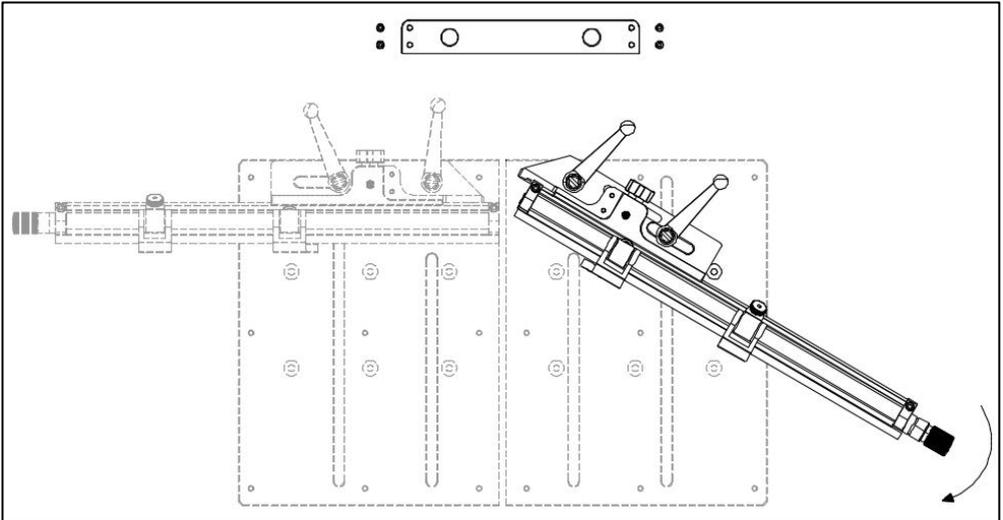

Fig. 8
1. With the bridge removed and adjusting levers loosened, either the left or right fence can be positioned at an angle to make cuts as shown in Fig. 8. You'll need to utilize a protractor to set the correct angle of cut. This will allow the fence to be set at different angles to be used independently from one another.